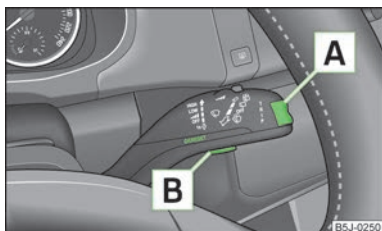

Fig. 6
Switching over the memory takes place with the button **B** » Fig. 6 on page 13 on the windshield wiper lever.
The rocker switch **A** » Fig. 6 and the button **B** are located on the windscreen wiper lever.
» Press the button **B** » Fig. 6.
» Briefly press the rocker switch **A** » Fig. 6 up or down. This opens the individual functions of the multifunction display one after the other.
» Press the button **B** » Fig. 6 for longer.
If the outside temperature drops below +4 °C, a snow flake symbol (warning signal for ice on the road) appears before the temperature indicator and an audible signal will sound. After pressing the rocker switch **A** » Fig. 6 on page 13, the function which was shown last is indicated.
The driving time which has elapsed since the memory was last erased, appears in the display. If you want to measure the driving time from a particular moment in time on, at this moment, reset the memory by setting the button **B** » Fig. 6 on page 13 to zero.
If you wish to determine the average fuel consumption over a certain period of time, you must set the memory at the start of the new measurement to zero using the button **[B]** » Fig. 6 on page 13. After erasing the memory, no value appears in the display until you have driven approx. 300 m.
The distance travelled since the memory was last erased is shown in the display » page 12. If you want to measure the distance travelled from a particular moment in time on, at this moment, reset the memory by setting the button **[B]** » Fig. 6 on page 13 to zero.
The average speed since the memory was last erased is shown in the display in km/hour » page 12. To determine the average speed over a certain period of time, set the memory to zero at the start of the measurement using button **[B]** » Fig. 6 on page 13.
- ▶ With button **[A]** » Fig. 6 on page 13, choose the menu point **Warning against excessive speeds**.